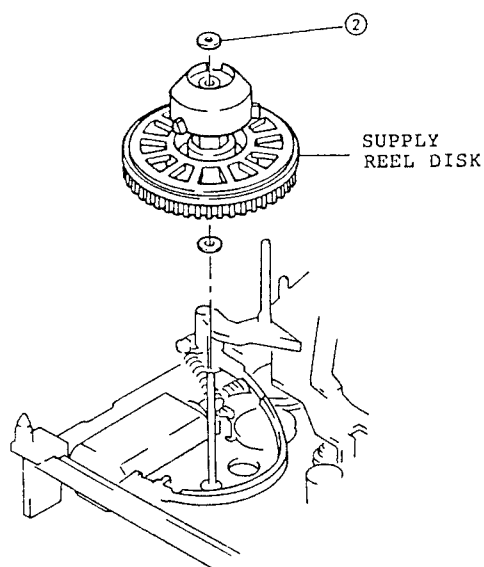

Fig. 2-72
2. Remove one (1) washer holding the supply reel disk. (See Fig. 2-72)
(See Fig. 2-72)
3. Remove the supply reel disk. (See Fig. 2-72)
4. Remove the supply reel disk. (See Fig. 2-72)